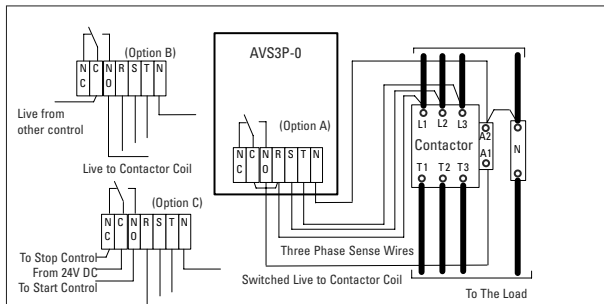

Figure 1.
1. Connect the AVS in accordance with the wiring diagram opposite (fig 1). Ensure that the R, S & T sensing connections to the AVS come from the supply side of the contactor. Note: a good neutral connection must be provided from the supply.
2. The output from the AVS is a changeover relay with volt-free contacts. There is a common (C), a normally open (NO) and normally closed (NC) contacts. When the AVS3P-0 is in the Red or Amber condition then C is connected to NC. When the AVS3P-0 displays Green then C is connected to NO. Make sure that the control current you wish to switch does not exceed the rating of the AVS3P-0 relay (max 16Amps).